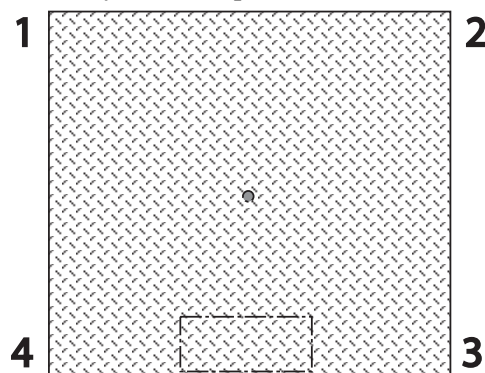

Figure 4-3. Corner Numbering - Top View
1. Remove the junction box cover and identify the correct load cell terminal corresponding to each corner (labeled CELL 1, CELL 2, CELL 3 and CELL 4). See Figure 4-3 on page 13 for scale deck corner numbering.
The four load cells are each wired to their respective terminals in the junction box according to the corner numbering system shown in Figure 4-3, and the coloring code in Table 4-2.